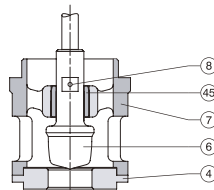

Fig. 7 - Bores - Types : 85-02, 85-08, 85-12, 85-62
2. Remove the stem nuts (23), the packing flange nuts (21) e the packing follower (27).
3. Remove the nuts (46) and the bonnet (14). Be careful not to damage the packing (17) when the stem thread (22) passes by them.
4. Pull the plug (6) out of the body, together with the stem (22), seat retainer (7) (figure 7), body gasket (11), spiral wound (10) and seat retainer gasket (9).
6. Do not remove the guide bush (45) from the seat retainer (7) (figure 7) if the replacement is not necessary. The guide bush is pressed in the seat retainer.
- Remove the nuts (36) and the studs (38). Remove the bonnet (14). Be careful to not damage the packings (17) when the stem threads (22) pass by them.
- Unthread the stem (22) of the sealing set (35) stem.
- Remove the nuts (46) from the housing (34) and remove the set formed by the sealing subset housing (34) with the bellows set (35) and plug (6). In some internal parts construction type this set includes the seat retainer (7) (figure 7).
- If the seat (7) retainer (figure 7) stayed in the valve body, pull it together with the body gasket (11), spiral wound (10) and seat retainer gasket (9).
- If needed, separate the bellows set (35) from plug (6), remove the pin (8) and unthread the obturator (6).
- If the seat retainer leaves together with the bellows set, remove the pin (8) and unthread the plug (6), releasing the seat retainer (7) (figure 7), body gasket (11), spiral wound (10) and seat retainer gasket (9).
- In case of the plug replacement (6), a new sealing set (35) must be installed.
4. In case of bush guide (45) replacement, press it at seat retainer (7) (figure 7).
5. In case of stem replacement, thread the new stem (16) in the plug (6) up to the thread end, so that it is very well tightened. Do a passage bore for the pin (8) through the plug (6) and the stem (22) using the bore existing in the plug (6) as a guide. Install a new pin (8) and lock it.
6. In some configurations the plug (6) does not pass by the seat retainer (7) (figure 7). In this case pass the seat retainer (7) by the stem (22).
7. Assemble the seat retainer (7) or the set including the seat retainer (7) (figure 7) and the plug (6) with the stem (22) in the body (1). Be sure the seat retainer is properly mounted in the seat. Any rotary positional of the seat retainer regarding the body is acceptable.
- Put the plug (6) in the seat retainer guide bush (45) by the inferior side of the seat retainer (7) (figure 7).
- Assemble the set including seat retainer (7) (figure 7), plug (6), sealing set (35), bellow housing (34), gaskets and cage adapter (when applicable) on the body (1). Be sure the seat retainer is properly mounted on the seat. Any rotary position of the seat retainer regarding the body is acceptable.
When the plug (6) passes by the seat retainer bush (45) (figure 7), the following procedure must be accomplished:
- Assemble the seat retainer (7) (figure 7) on the body (1). Be sure the seat retainer is properly mounted on the seat. Any rotary position of the seat retainer regarding the body is acceptable.
- Assemble the plug (6), sealing set (35) and housing (34) passing the plug (6) by the guide bush (45) (figure 7).
- Tight the body nuts (46) using as reference, for clean threads, the torques presented in table 1 (page 6). Tight the nuts alternately in a crossed diametrically crossed sequence.